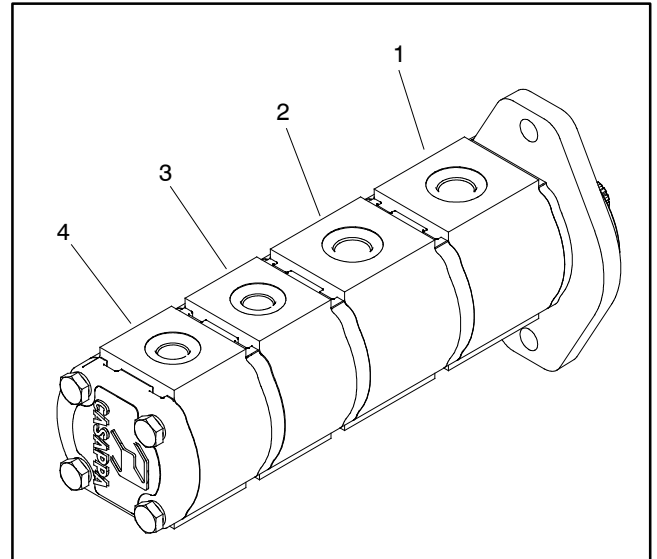

Figure 47
The gear pump flow test should be performed to make sure that the mow, steering, lift/lower, cooling fan and traction charge circuits have adequate hydraulic flow. The front gear pump section provides hydraulic flow for the cutting wing decks (Fig. 47). The second gear pump section provides hydraulic flow for the center cutting deck. The third gear pump section provides hydraulic flow for the cooling fan, lift/lower and traction charge circuits. The fourth gear pump section provides hydraulic flow for the steering, traction charge and cooling fan circuits.
3. Determine which gear pump section is to be tested. Disconnect hydraulic hose from fitting in gear pump section that is to be tested (Fig. 47).